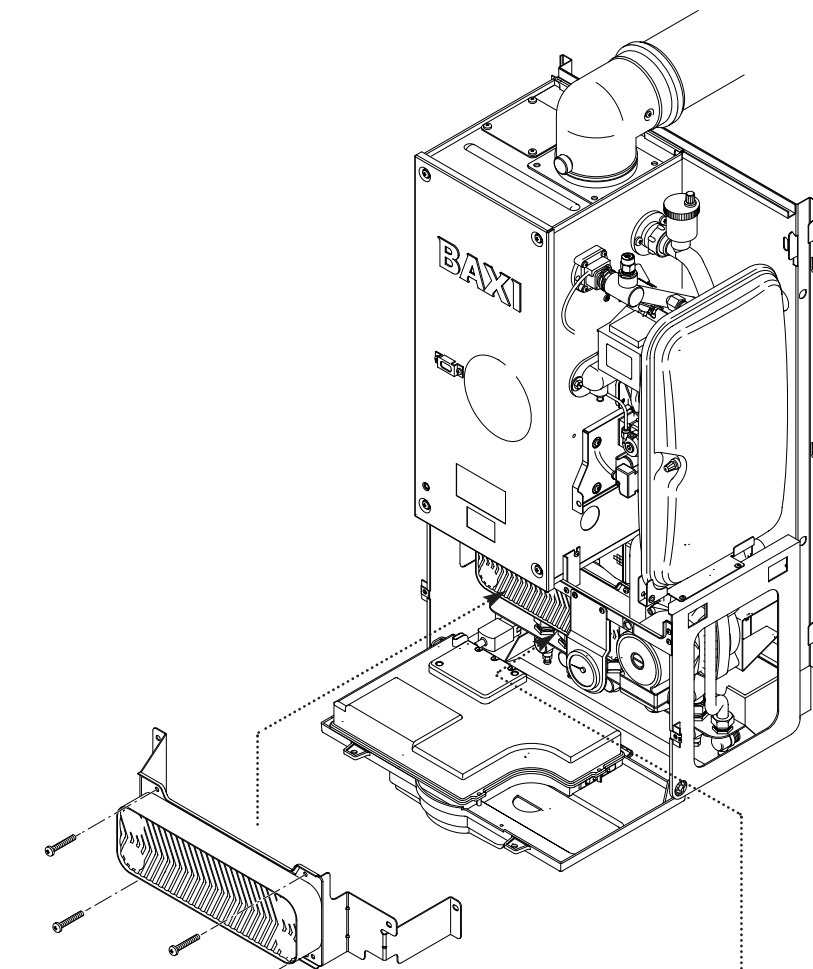

Fig. 70
2. Remove the four screws securing the plate heat exchanger to the manifolds (Fig. 70).